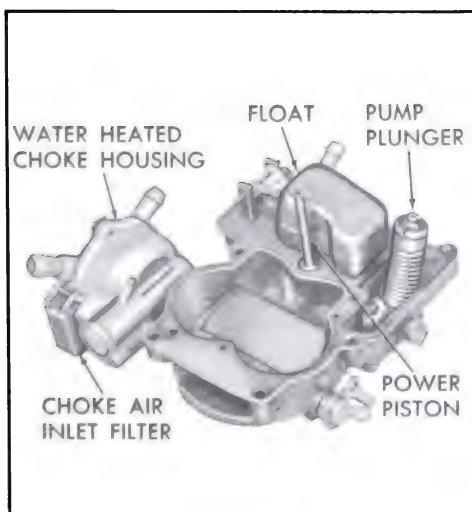

Figure 3-33—Air Horn Parts
1. Place air horn assembly inverted on bench. Remove float hinge pin and lift float assembly from cover. Remove float needle from the float arm. Remove float needle seat, fibre gasket and needle seat screen. See Figure 3-33.